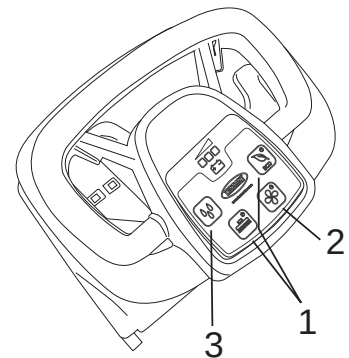

Fig.17
- Press the brush button or the ECO button (fig. 17, ref. 1), in addition to activating the brush, this will also enable the vacuum function and the flow of detergent solution.
- When work is in progress, check the thoroughness of the wash and regulate the flow of detergent solution accordingly, with the relative button (fig. 17, ref. 3).
- Press the brush control button (fig. 17, ref. 1).
- Switch off the vacuum function by pressing the suction control button (fig. 17, ref. 2).